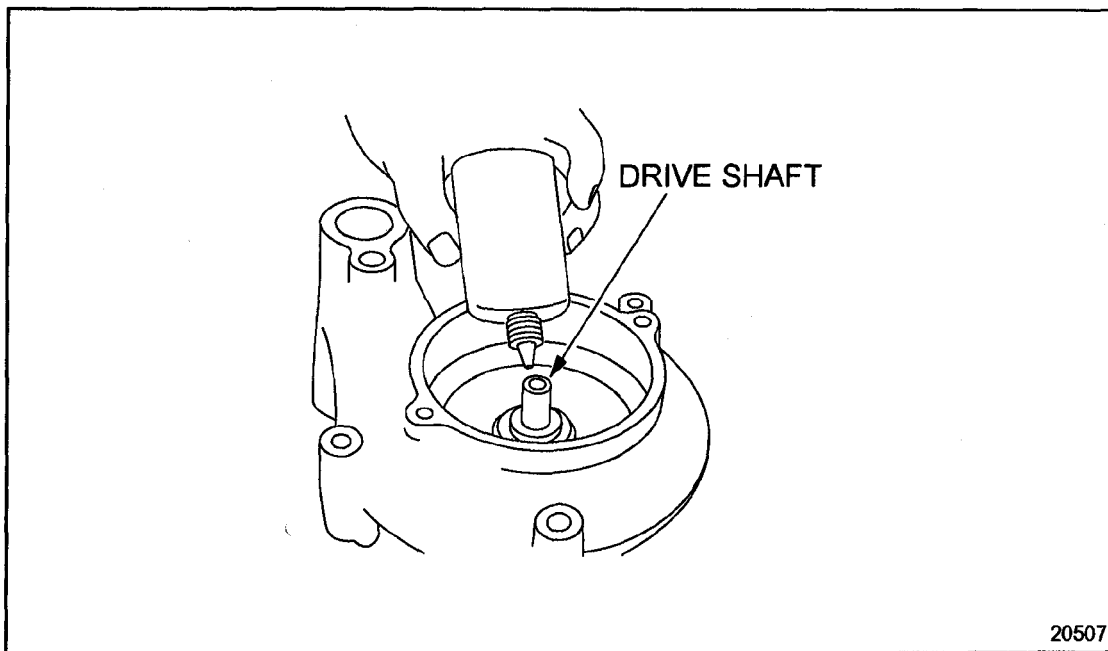

Figure 4-59 Sealant Installation (FM)
19. Apply only one drop of Loctite® 290 sealant to the drive shaft where it contacts the water seal. The sealant will wick around the shaft making a complete seal. See Figure 4-59. Wipe off excess sealant.